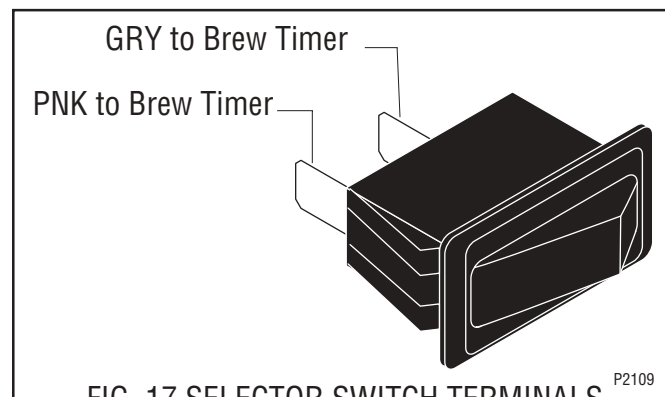

FIG. 17 SELECTOR SWITCH TERMINALS
4. Refer to Fig. 17 and reconnect the wires.